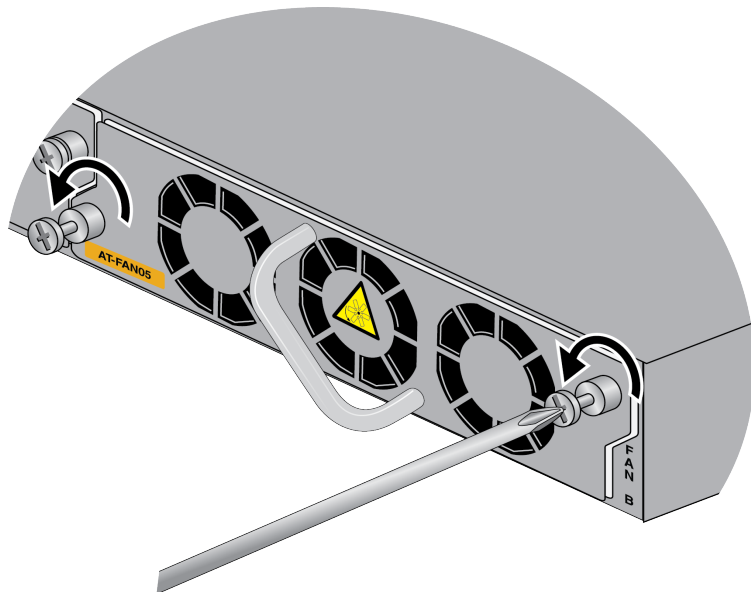

Figure 139. Loosening the Screws on the Fan Module
1. Use a #2 Phillips-head screwdriver to loosen the two screws on the faceplate of the fan module. Refer to Figure 139.